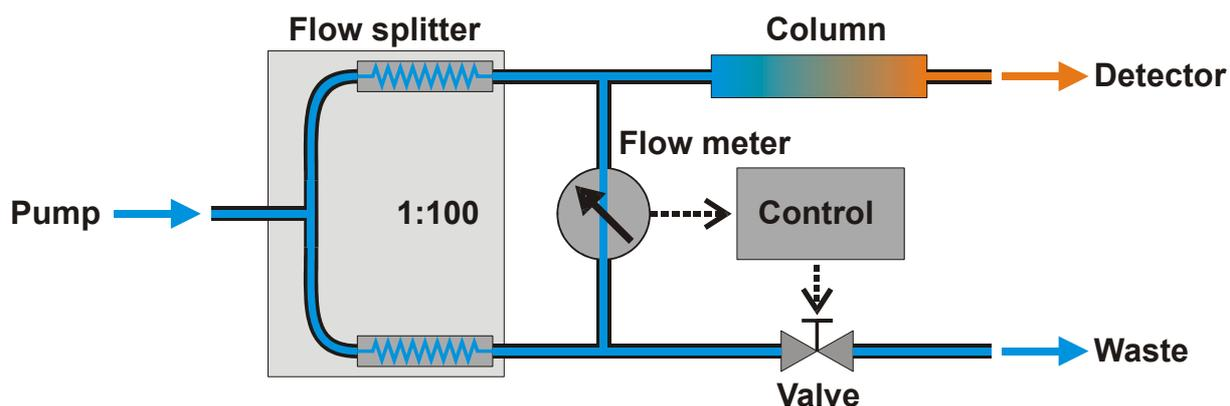

Fig. 1: Operation principle of flow splitting with control
- The flow splitter (→ Fig. 1, page 11) delivers the low flow rates required for capillary, micro, and nano HPLC applications. The flow manager is fitted with a flow splitter identification system that allows you to store splitter-specific information on a chip card and read it out whenever you want.
The flow splitter is equipped with two fluidic resistors that split the flow from the pump in the reciprocal ratio of the resistance. To ensure identical pressure drop at both resistors, the outputs of the flow splitter are connected via a cross arm with integrated flow meter. A controller zeroes the unbalance flow so that only the flow delivered by the flow splitter passes the column. To ensure this, the waste path includes an adjustable valve for counterbalancing the column pressure (→ Fig. 1).